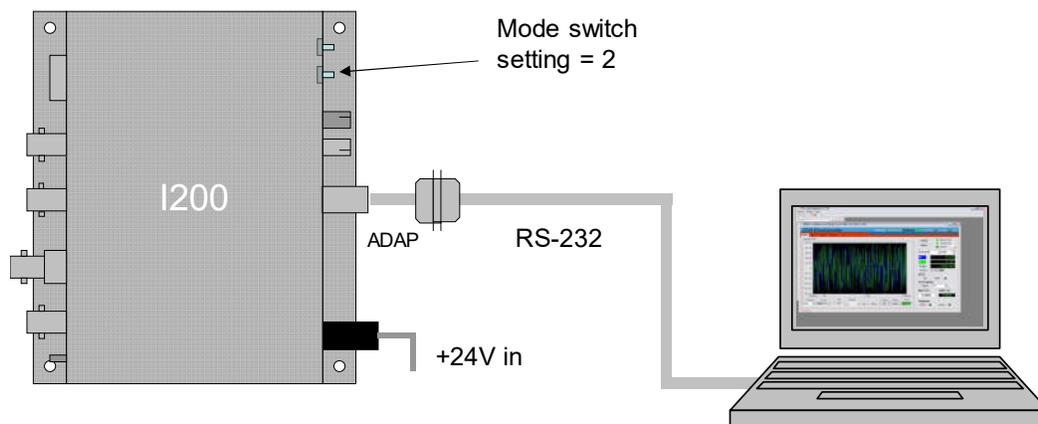

Figure 12. Serial binary connection using RS-232 (computer running PTC DiagnosticG1 host software)
To start off it is probably simplest to connect the I200 directly to the PC via its RS-232 or USB ports (see figures 12 and 13). Using the USB interface, you must install the USB driver (see section 16). If you are using RS-232, set the mode switch to position 2 (115 kbps binary). If you are using USB, set it to position 1 (3 Mbps binary). The address switch can be set to anything between 1 and F (15).